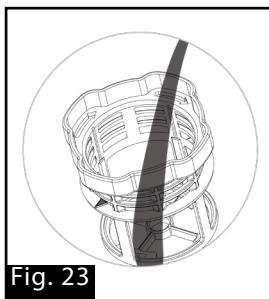

Fig. 23
4. Flush cylinder filter and filter net (Fig 23).